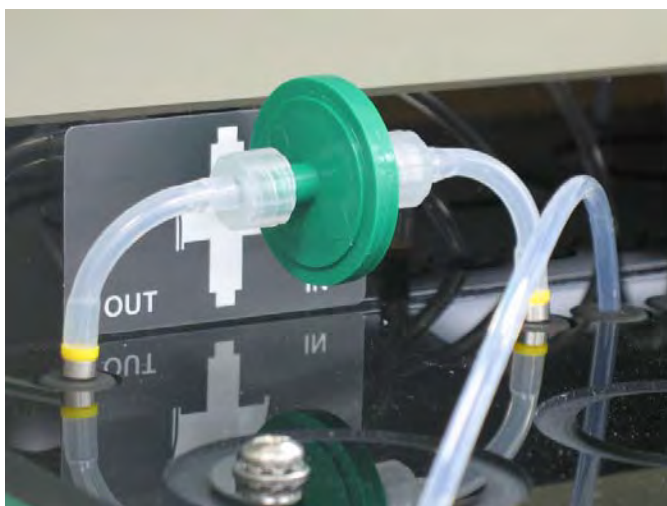

Fig. 13.28. Location of the inline filter under the instrument top cover.
1. Open the top cover and locate the filter (Figure 13.28).